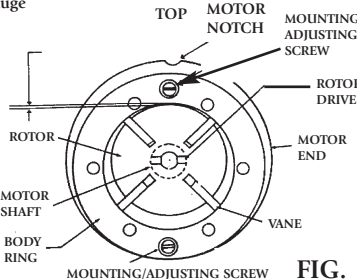

FIG. 13
(Rotor, vanes, back plate, drive insert FIG. 13)
C. Place .005" feeler gauge between body ring and the top of rotor. Hold body ring to establish this clearance and tighten the two mounting screws securely. (FIG. 13)